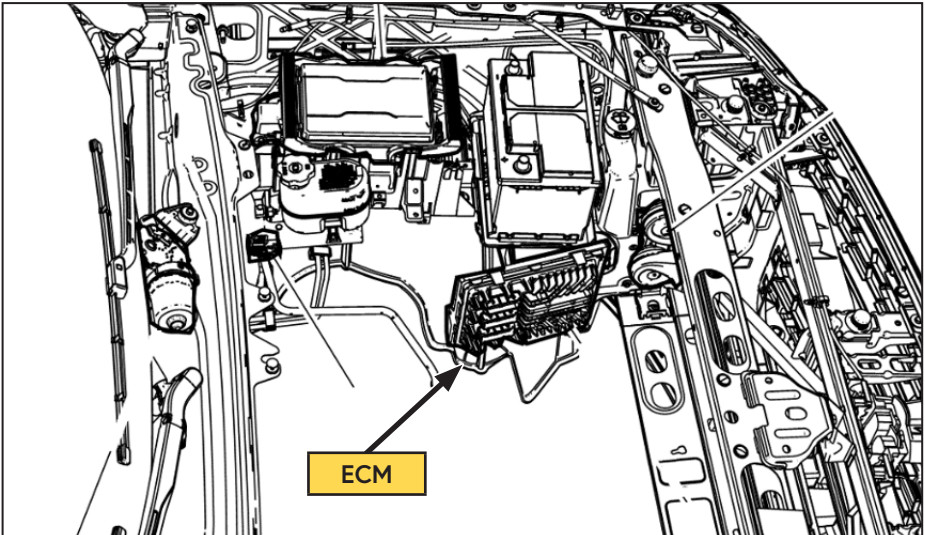

Figure 4 — ECM location
- Locate the Engine Control Module (ECM) on the driver side fender near the brake fluid reservoir (Figure 4).